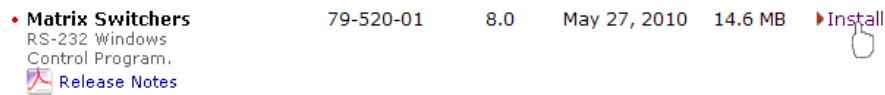

Figure 31. Software Installation
3. Scroll to the desired program and click **Install** (see figure 31).